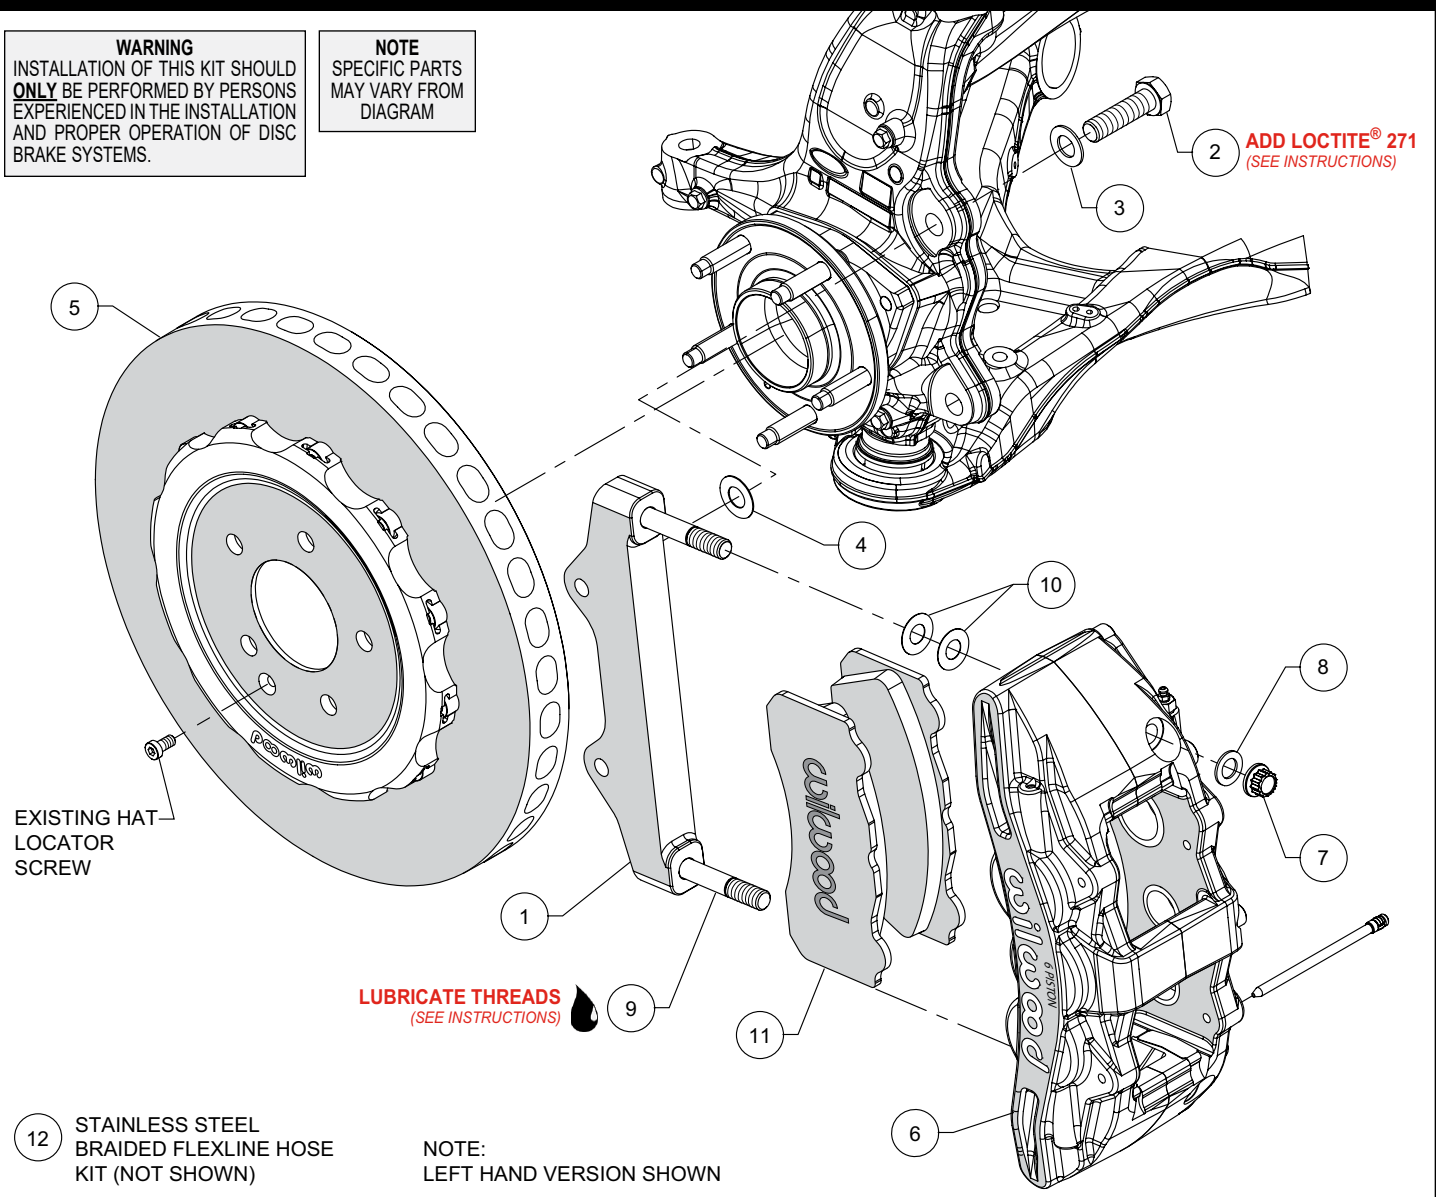

Figure 1. Typical Installation Configuration
NOTE: Numbers in parenthesis refer to the parts list and Figure 1 on the preceding pages.
- The caliper mount bracket (1) should initially be installed with clean, dry threads on the mounting bolts. Orient the bracket, as shown in Figure 1 and Photo 1, and install using bolts (2) and washers (3). Initially place one .029" thick shim (4) on each bolt between the bracket and upright, Figure 1. Temporarily tighten the mounting bolts. **NOTE:** *The bracket must fit squarely against the mount bosses on the upright.* Inspect for interference from casting irregularities, machining ridges, burrs, etc. Later, after the caliper alignment has been checked, the mount bolts will be secured using red *Loctite*® 271.
- Slide the hat/rotor assembly (5) onto the axle hub. **NOTE:** *The hat must fit flush against the axle hub flange or excessive rotor run out may result.* Install the hat locator screw (OEM), as shown in Figure 1 and Photo 2, to keep the hat/rotor assembly in place while continuing with the installation.
- NOTE:** *This kit contains distinct right and left hand calipers that must be mounted in a specific direction, as described below.* Lubricate the caliper mounting studs (9) with lightweight oil. Initially place two .015" thick shims (10) on each stud between the caliper and the bracket, as shown in Figure 1 and Photo 3. Mount the caliper (6) onto the bracket (1) using lock nuts (7) and washers (8), Figure 1. Temporarily tighten the lock nuts. Ensure that the caliper is mounted so the largest pistons are at the rotor exit end of the caliper, in relation to the direction of the rotor. View the rotor through the top opening of the caliper. The rotor should be centered in the caliper, Photo 4.
- Remove the two pad retaining pins from the caliper (6) by pushing out the pins from the tapered end using a blunt instrument. Insert the brake pads (11) into the caliper from the bottom, Figure 1